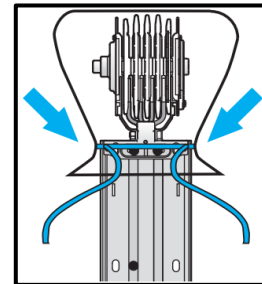

Figure 6: Conform Cover
4. Conform the plastic cover ensuring again it completely covers the end of the busbar (see Figure 6).